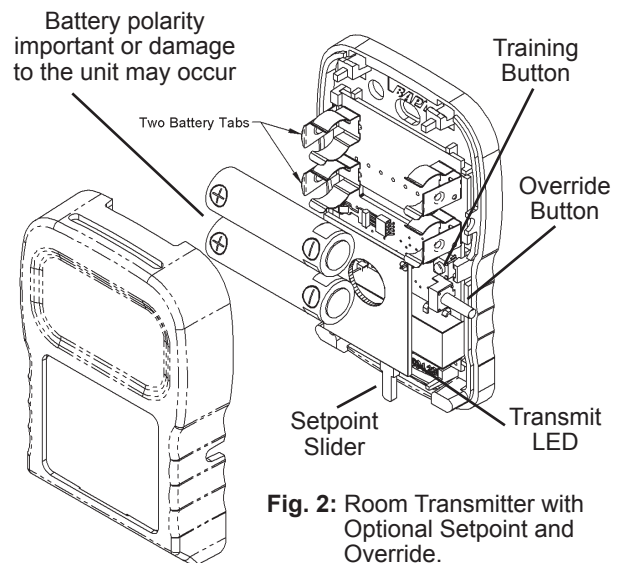
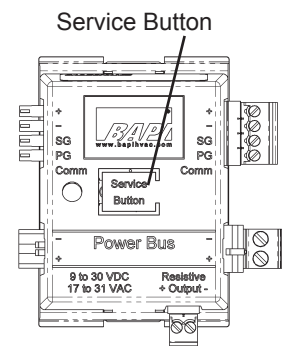

Fig. 2: Room Transmitter with Optional Setpoint and Override.
Fig. 3: Output Module
3. Remove the cover of the room transmitter and remove the battery tabs or install the batteries, observing polarity as shown in Fig 2. The small LED at the bottom right of the circuit board, next to the setpoint, will flash approximately once every 20 seconds, indicating a transmission. (The flash is very quick.)
4. Press and hold down the “Service Button” on the top of the output module (Fig 3) that you wish to train. Then, press and release the “training button” (see Fig 2) on the room transmitter. When the output module receives the “training transmission” from the room transmitter, the output module’s red LED will light. Release the “Service Button” on the output module and the red LED will go out. The transmitter and output module are now trained to each other. During normal operation, the output module’s LED will flash about once every 20 seconds indicating data reception from the transmitter trained to it.
4. Press and hold down the “Service Button” on the top of the output module (Fig 3). Then, press and release the **VERRIDE** button on the transmitter (See Fig 2). (Note: If the unit was not ordered with an override function, then the **VERRIDE** button will be shorter and will not extend outside the case but will still be accessible upon removing the cover.) When the output module receives the “Training Setpoint” info from the transmitter, the output module’s red LED will light. Release the “Service Button” on the output module and the red LED will go out. The transmitter and output module are now trained to each other. During normal operation, the output module’s LED will flash about once every 20 seconds indicating data reception from the transmitter trained to it.